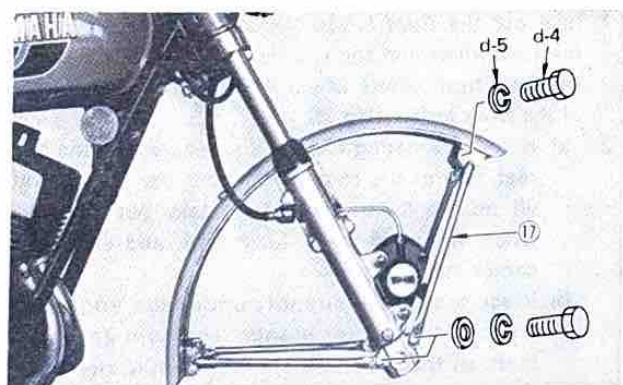

Fig. 12
5. Install the two fender stays (17) on the front fender and the front forks. (Fig. 12)